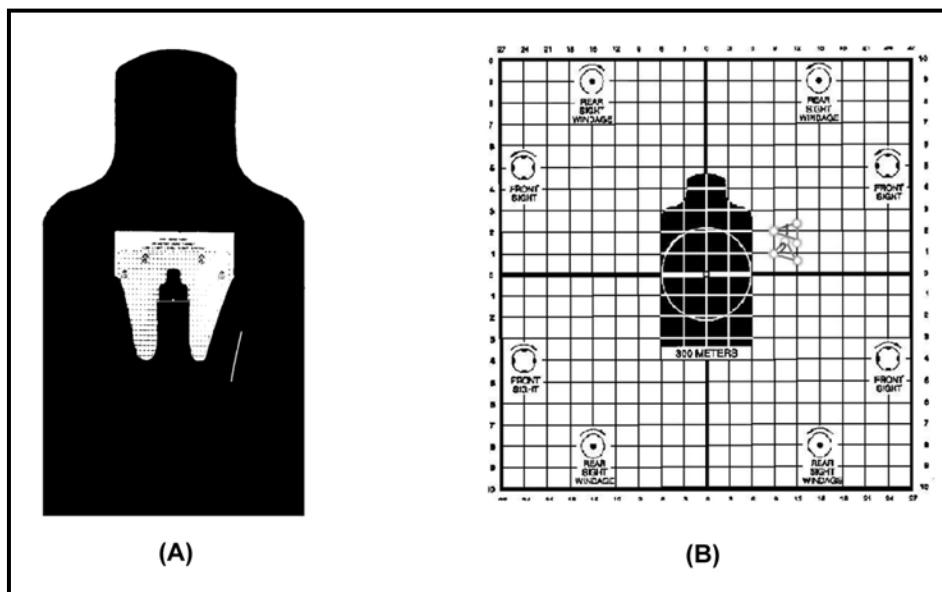
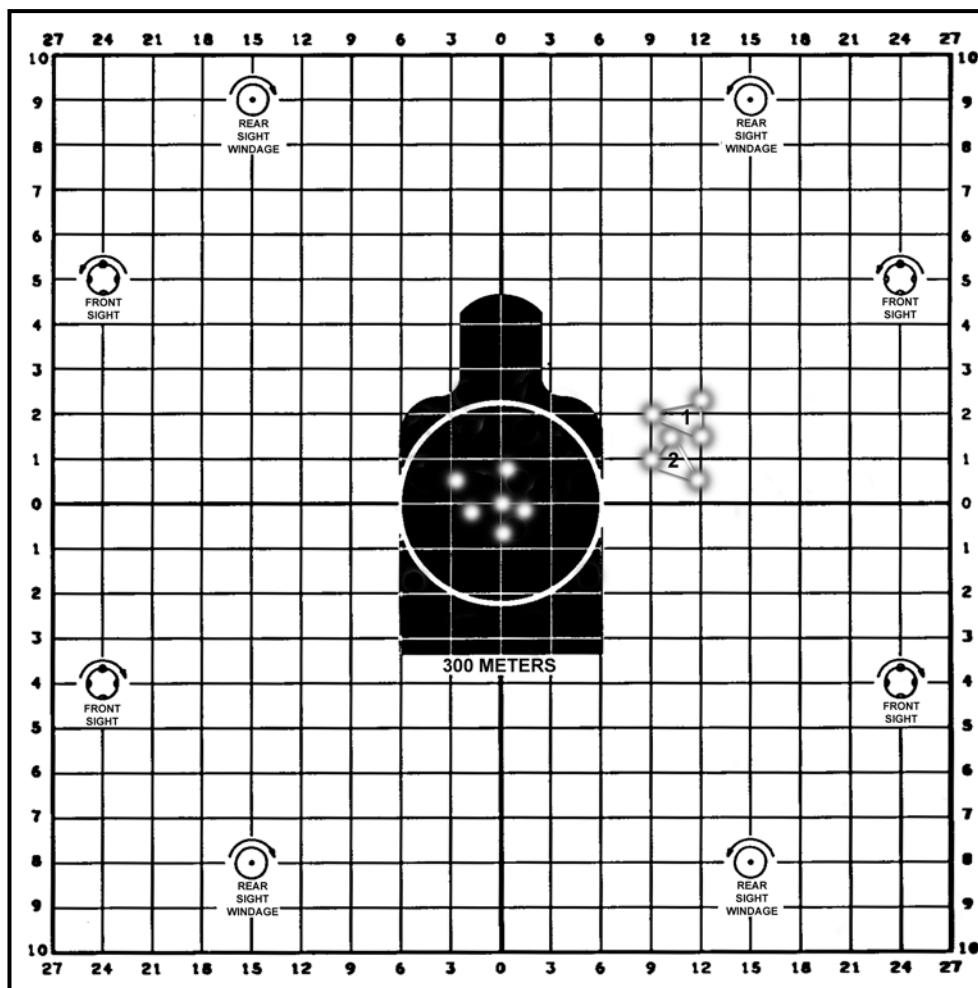

Figure 5-18. Correct aiming (A), initial shot-group results (B).
Figure 5-19. Final shot-group results.
(3) Each shot is fired using the same aiming point (center of mass of the target) from a supported firing position.
(4) Each soldier ensures his sights are set for 25-meter zeroing.
(5) The soldier fires a three-round shot group at the 25-meter zero target. The firing line is cleared, and he moves downrange to examine the shot group. The soldier examines the shot group for fundamental errors, triangulates the shot group and puts the number 1 in the center of the shot group.
(6) Initially the soldier should fire two individual shot groups before a sight change is considered. If the initial shot group is not on paper the weapon should be mechanically zeroed before the soldier fires this weapon again.
(7) The soldier returns to the firing line and fires a second three-round shot group.
(8) The firing line is cleared, and he moves downrange to examine the second shot group, triangulate and mark the center of the shot group with the number 2. The soldier groups the two shot groups and marks the center of the two shot groups with an X. If the two shot groups fall within a 4-centimeter circle the firer determines what sight adjustments need to be made, identifies the closest horizontal and vertical lines to the X, and then reads the 25-meter zero target to determine the proper sight adjustments to make. If the two shot groups did not fall within a 4-centimeter circle the soldier continues grouping.
(9) The soldier then annotates any sight adjustments that need to be made to the weapon on the 25-meter zero target and ensures his name is also on the target. If five out of six rounds fell within the 4-centimeter circle the soldier is zeroed and can be removed from the firing line. (The majority of the round must be inside the circle to be counted.)
(10) The unzeroed soldier returns to the firing line and makes sight adjustments.
(11) Steps 1 through 8 are repeated until the soldier places five out of six consecutive rounds inside the 4-centimeter circle. If the soldier is not zeroed in 18 rounds he should be removed from the firing line and given remedial training before attempting to zero again.
(12) Once firing proficiency has been demonstrated from the supported firing position, zeroing exercises can be conducted from the unsupported firing position. For example, 18 rounds are allocated for the zeroing exercise; if the soldier zeroes in 9 rounds, the soldier can fire the remaining 9 rounds from the unsupported firing position.
c. While applying the fundamentals, the soldier consistently aims center mass of the target as shown in (A) of Figure 5-18. The soldier fires two separate three-round shot groups, as shown in (B) of Figure 5-18, and groups them. Based on the location of these two groups the soldier makes the appropriate sight adjustments. After making the correct sight changes, the soldier fires two more separate three-round shot groups to confirm the adjustments have aligned the sights with the center of the target, and the bullets are in the 4-centimeter circle (Figure 5-19.).